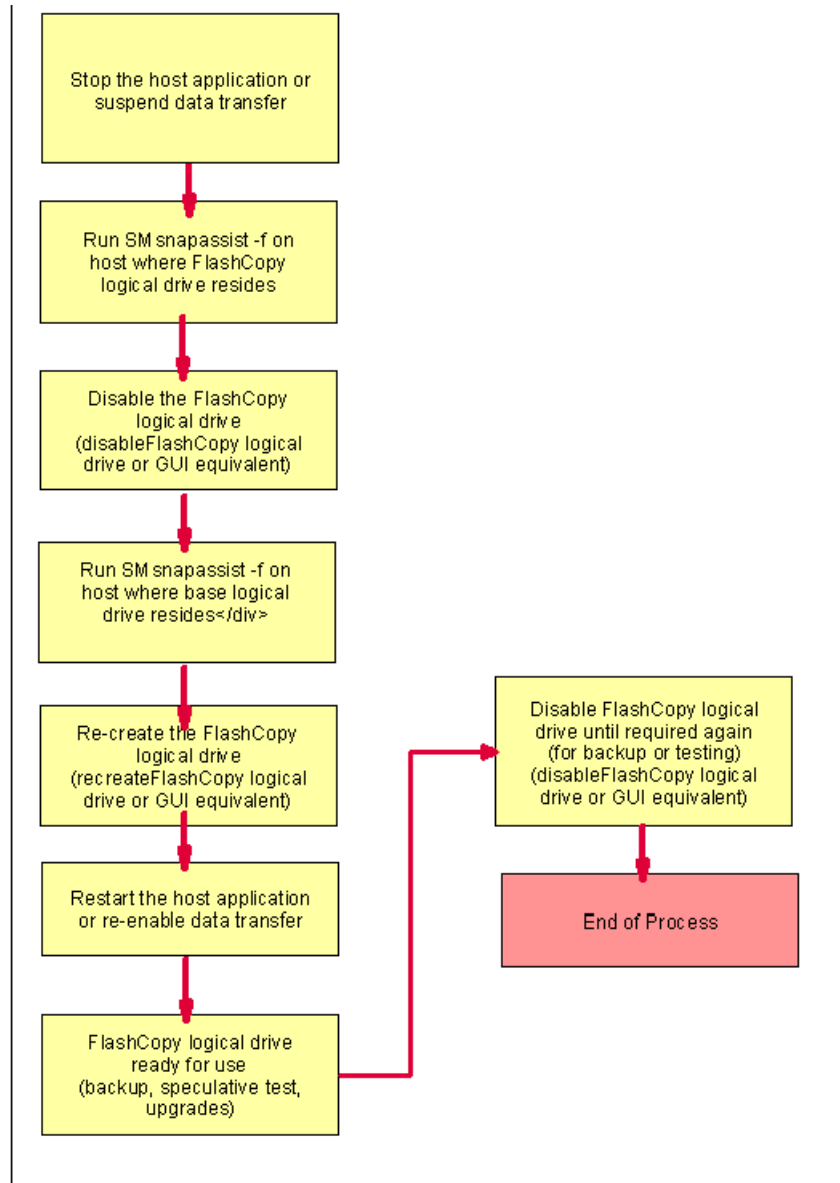

Figure A-2 Re-using disabled FlashCopy logical drives: Windows basic/regular disks
- ▶ Reuse a disabled FlashCopy logical drive on Windows 2000, Windows server 2003 or Windows NT. See Figure A-2 on page 354.